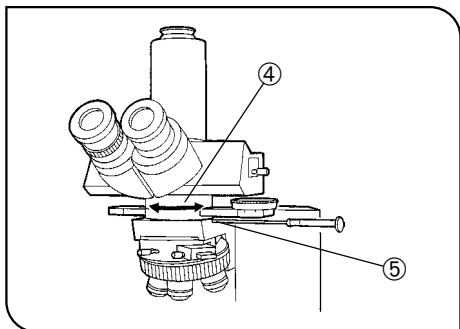

Fig. 20
4. Slightly loosen the intermediate adapter clamping screw ⑤. (Fig. 20)
5. While observing the field of view, rotate the intermediate attachment for AN360P (U-OPA) ④ until complete extinction is obtained. At this point, tighten the intermediate attachment clamping screw ⑤. (Fig. 20)